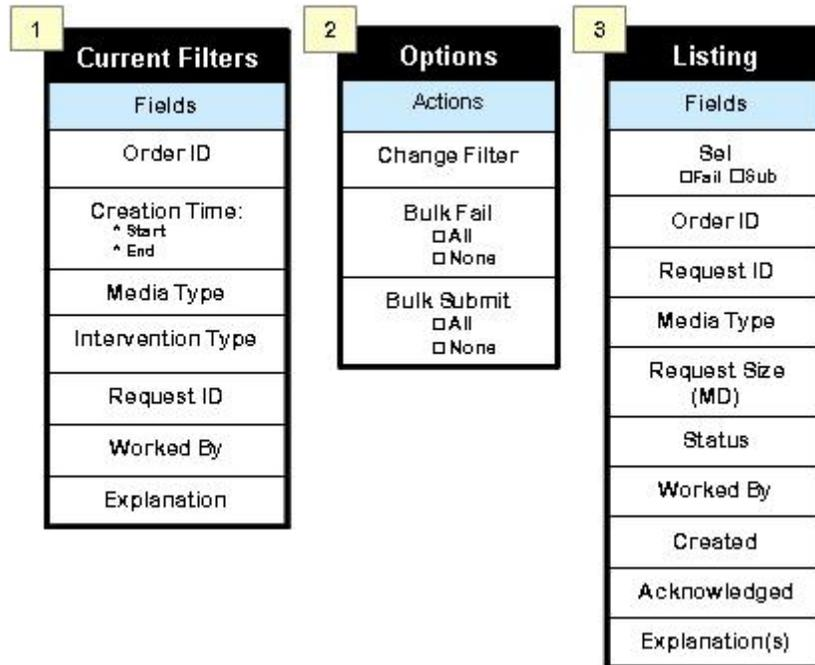

Figure 15.12-16. Open PM Interventions Page – Fields and Options
- 1 - **Current Filters** – describes the set of pre-defined criteria (Figure 15.12-16, Frame 1) on which the list of distribution requests are to display.
- 2 - **Options** – has three features (Figure 15.12-16, Frame 2) to allow Operator to:
- 3 - **Listing** – captures the requested distribution output (Figure 15.12-16, Frame 3) of what is being filter.